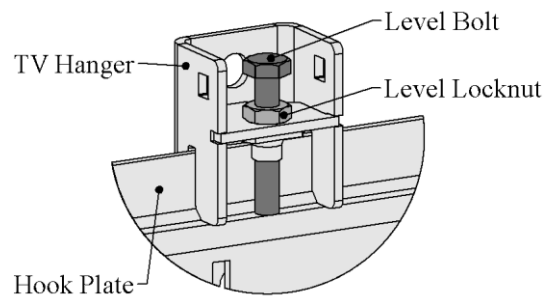

Figure 14, TV Level Fine Tuning (Detail from Figure 4)
2. Figure 14 shows the parts for Leveling